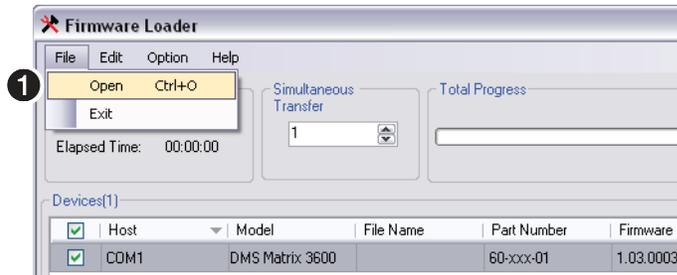
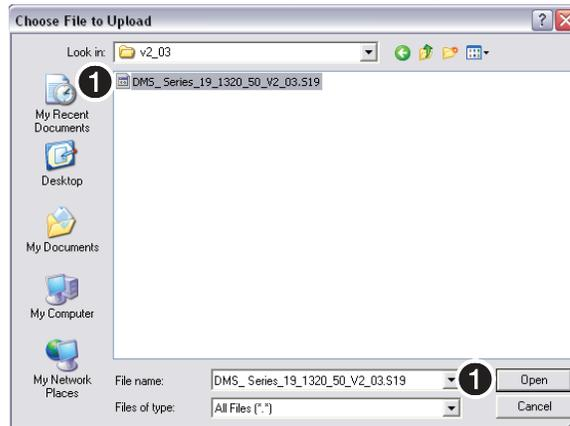

Figure 46. Extron Firmware Loader Window
Figure 47. Choose File to Upload Dialog Box
If you are connected via either serial port, the Firmware Loader window opens (see figure 46 and **Serial-port or USB-port-connected firmware upload** on page 76).
1. Select the DMS matrix switcher and click **File > Open** (see figure 46, ❶). The **Choose File to Upload** dialog box opens (see figure 47).